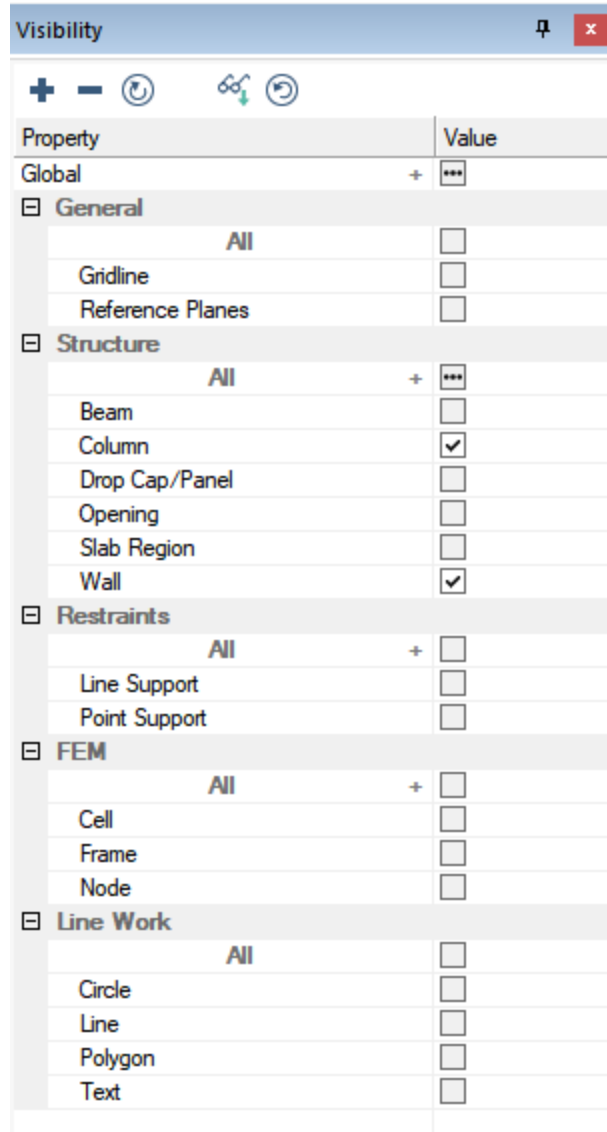

FIGURE 7-21
- In the *Visibility Grid*, make the selections as shown in **FIGURE 7-21**.